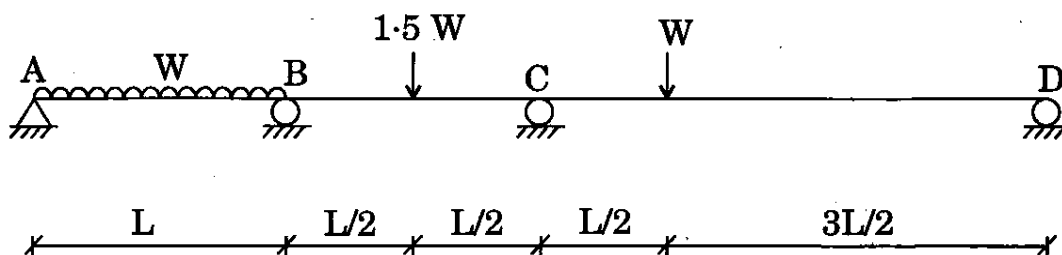

Figure 12
- (c) Determine the collapse load in a three-span continuous beam shown in Figure 12. It has a moment capacity of  $M_P$  over the exterior spans AB and CD, and  $1.5 M_P$  over the interior span BC. 20